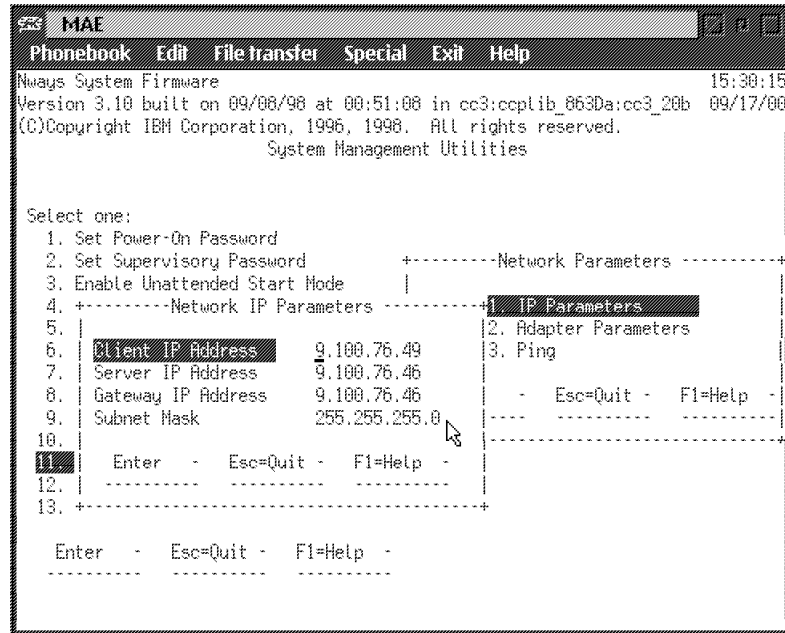

Figure 1-23. MAE
- \_\_\_ 11. \_\_\_ Refer to Figure 1-23, enter the **Client IP address** (MAE address of the PCMCIA card), **Server IP address** (service processor address), **Gateway IP address** (if no router on the ring, enter the service processor IP address), **Subnet Mask**, then press **Enter**.